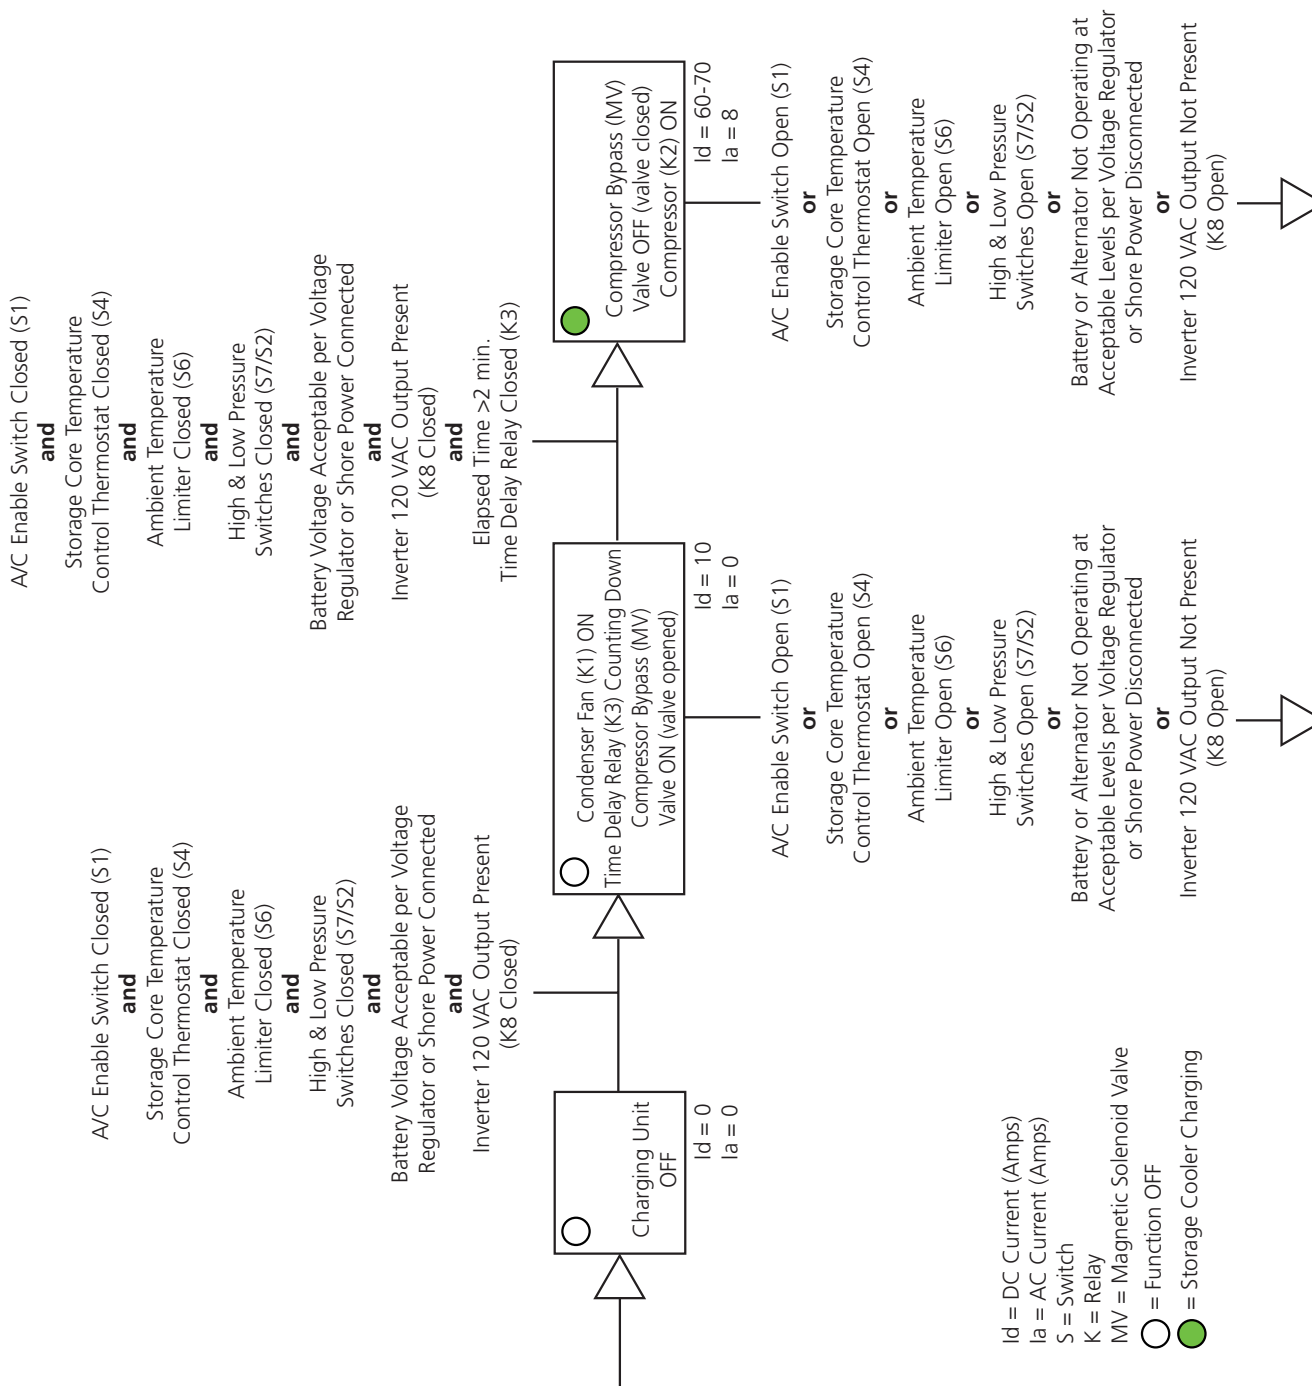

Figure 15. Charge State Diagram
3.3.1 Charging (Reference Charge State Diagram in Fig. 15)